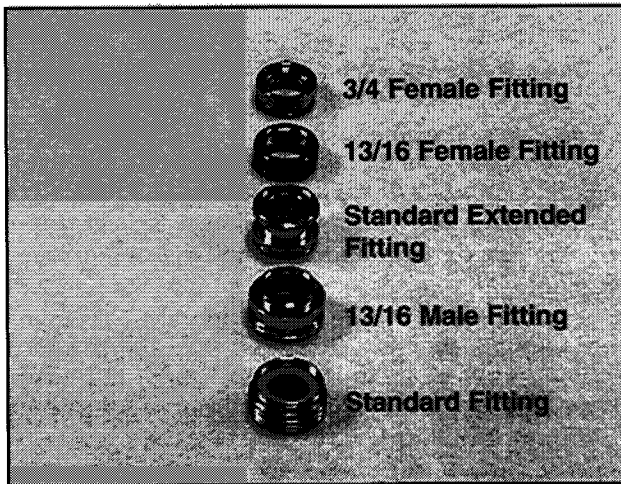

FIG.3-Sink Fittings
1. **SINK FITTINGS:** Each machine comes with an **adaptor tray** containing 5 different **Sink Fittings** (see **figure 3**). **To install:**
- ii. The **13/16 Male Fitting (figure 3)** is the next most used fitting.
- iii. The **Standard Extended Fitting (figure 3)** is used for recessed faucets.
- iv. The **3/4 and 3/16 Female Fittings (figure 3)** are rarely used. They would be used as reducers on the Standard Fitting.